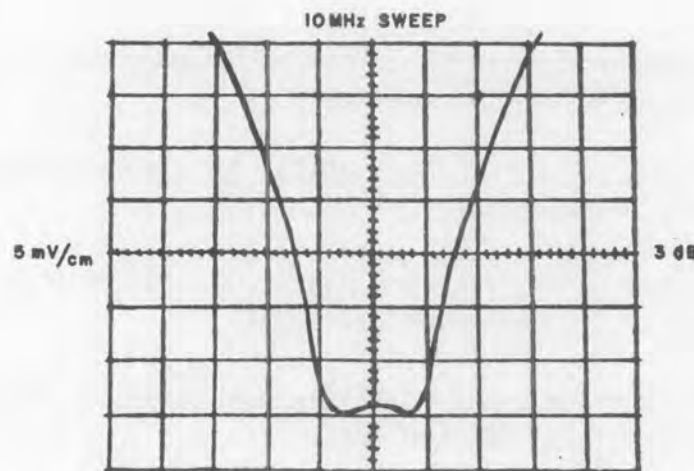

Figure 4-11. Response Curve, 21.4 MHz Overall
- (2) Set the HP-608E signal generator to 60 MHz CW mode.
- (3) Set the sweep generator to 60 Mhz and adjust the sweep generator and scope controls to display a response curve.
- (4) Adjust A2A1L3, A2A1L4, A2A1L6, A2A1L7 and A2A1L9 for maximum amplitude of the response curve and symmetrical to the center frequency marker, similar to Figure 4-11.
- (5) To check the overall gain of the tuner head, note the response amplitude at the marker while tuning the sweep generator and tuner slowly across the 100-200 MHz band. Note the lowest amplitude point at the 60 MHz marker, and set the sweep generator and tuner to this frequency.